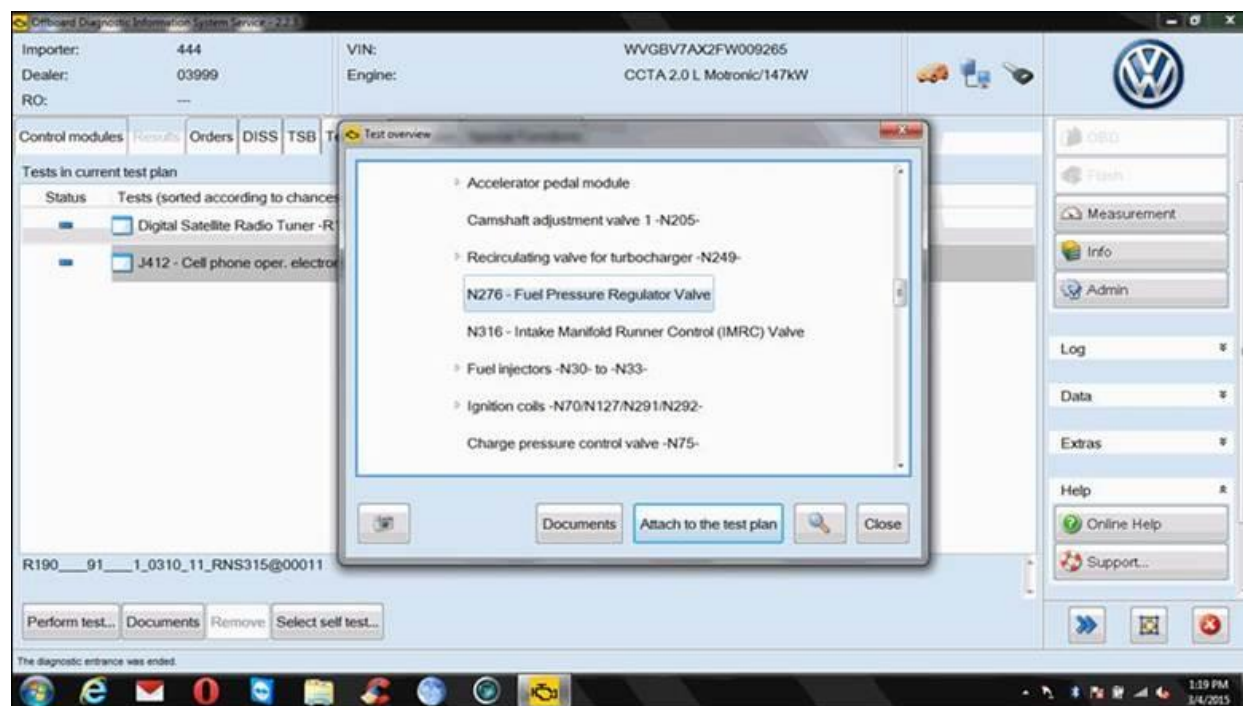
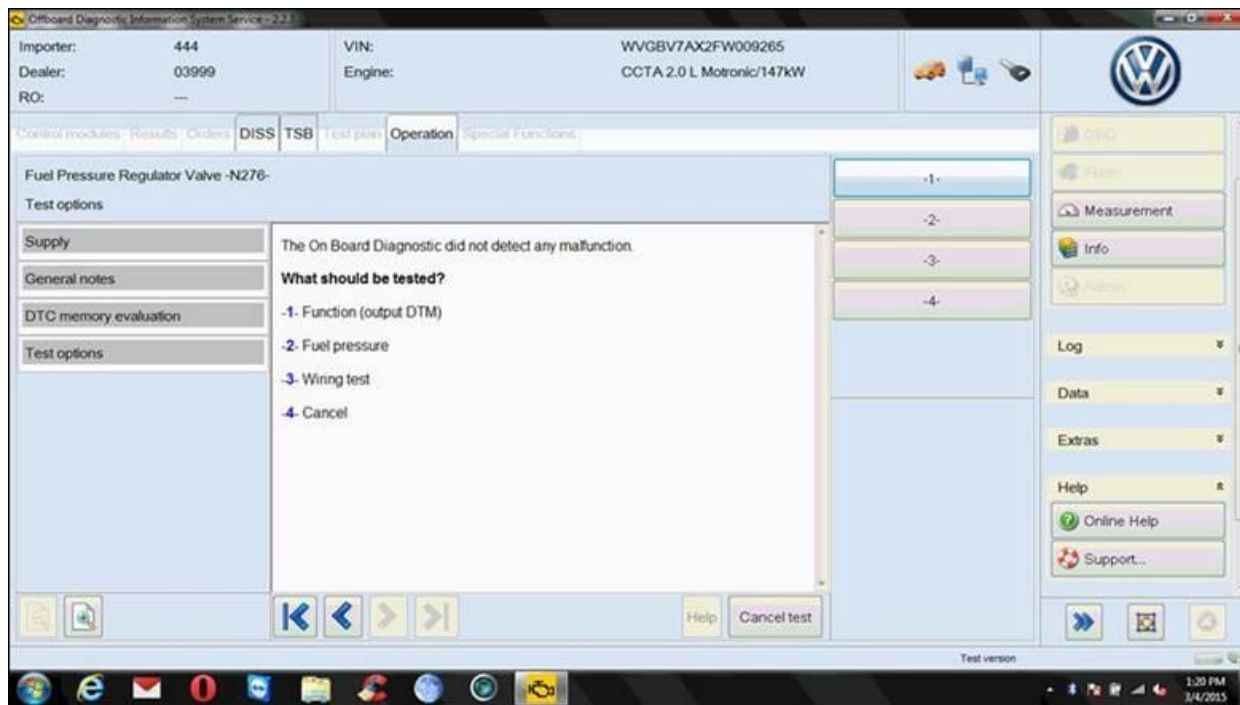

Figure 1a
Figure 1b
- Locate the test plan for the “N276 – Fuel Pressure Regulator Valve,” and attach the test to the test plan list (Figure 1a and Figure 1b).